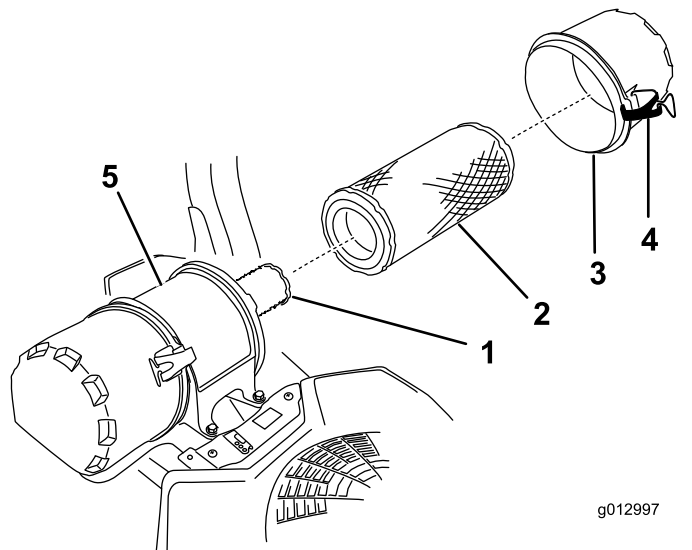

Figure 47
6. Release the latches on the air cleaner and pull the air-cleaner cover off the air-cleaner body (Figure 47).
8. Gently slide the primary filter out of the air-cleaner body (Figure 47).
2. If the inner filter is being replaced, carefully slide it into the filter body (Figure 47).
3. Carefully slide the primary filter over the inner filter (Figure 47).
4. Install the air-cleaner cover and secure the latches (Figure 47).